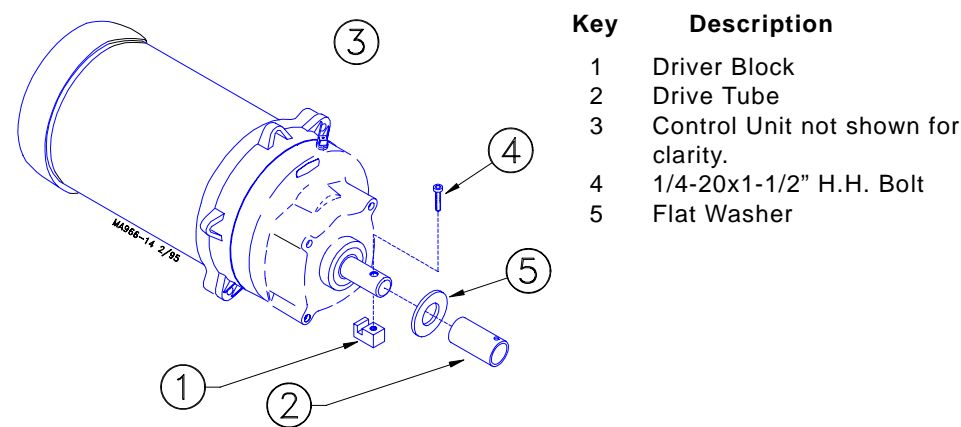

Figure 35. Auger Driver Components.
5. Slide the Drive Tube and flat washer over the output shaft on the Power Unit, as shown in Figure 35.